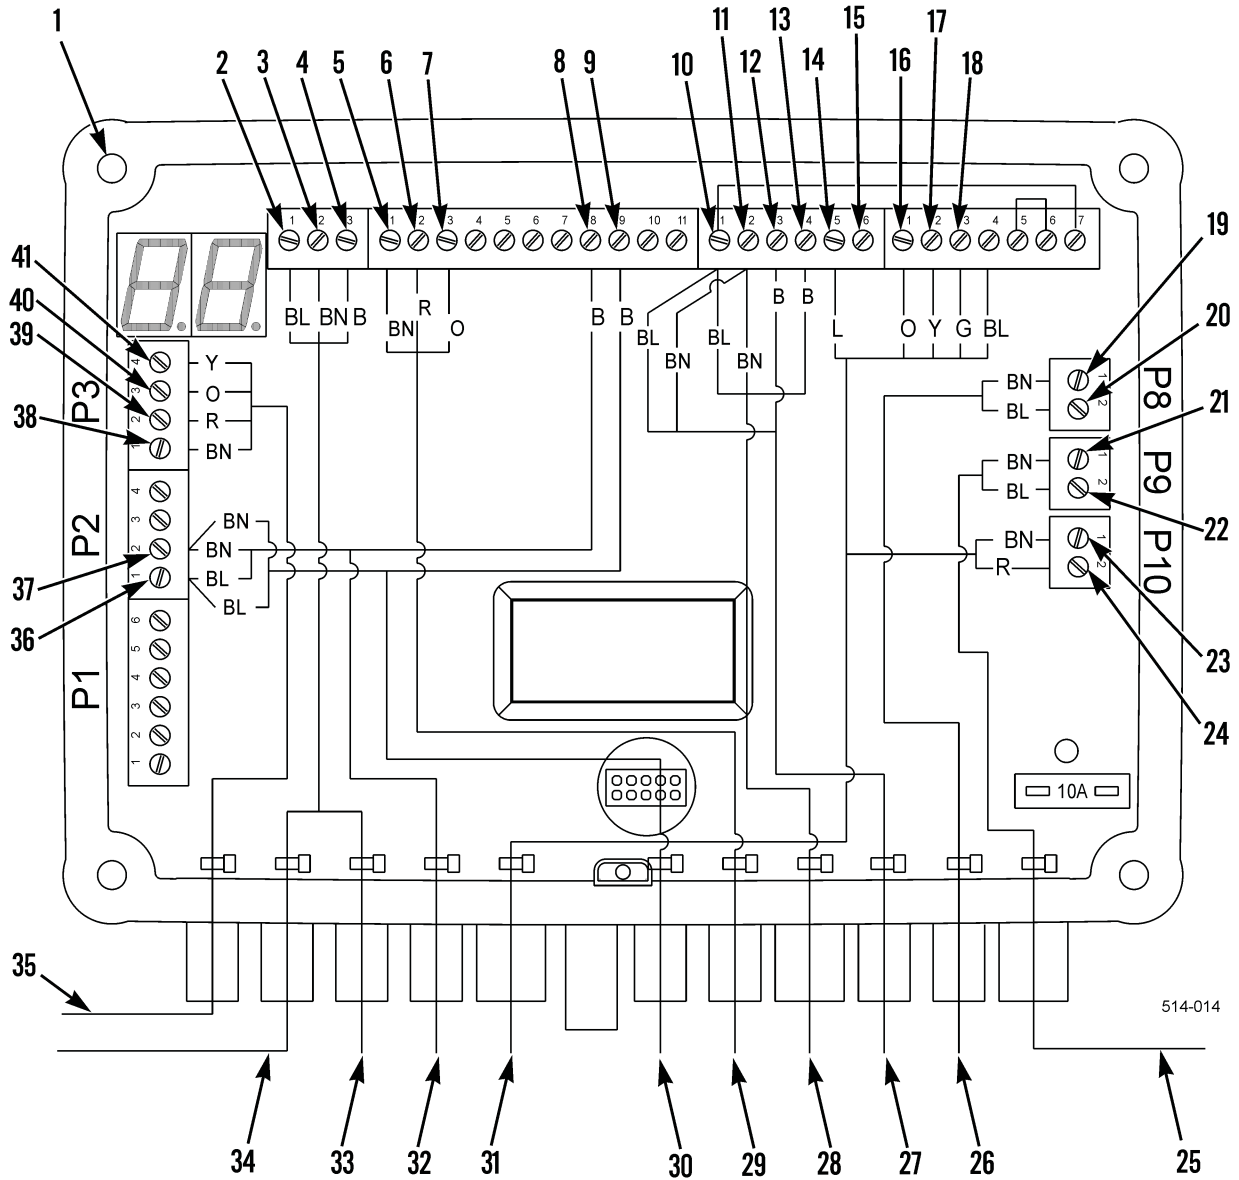

Figure 12. Space 4000 ST Box Wiring Removal.
1. Disconnect brown wire from position 1 (Figure 12, Item 38), red wire from position 2 (Figure 12, Item 39), orange wire from position 3 (Figure 12, Item 40), and yellow wire from position 4 (Figure 12, Item 41) on P3.
2. Remove space computer harness (Figure 12, Item 35) from Space 4000 ST box (Figure 12, Item 1).
3. Disconnect two blue wires from position 1 (Figure 12, Item 2), two brown wires from position 2 (Figure 12, Item 3), two black wires from position 3 (Figure 12, Item 4) on P4.
4. Remove LH (Figure 12, Item 34) and RH (Figure 12, Item 33) stowage guide sensor harnesses from Space 4000 ST box (Figure 12, Item 1).
5. Disconnect brown wire from position 1 (Figure 12, Item 5), red wire from position 2 (Figure 12, Item 6), orange wire from position 3 (Figure 12, Item 7) on P5.
6. Remove stowage angle sensor harnesses (Figure 12, Item 29) from Space 4000 ST box (Figure 12, Item 1).
7. Disconnect two blue wires from position 1 (Figure 12, Item 36), and two brown wires from position 2 (Figure 12, Item 37) on P2.
8. Disconnect black wire from position 8 (Figure 12, Item 8) on P5.
9. Remove LH transport lock sensor harnesses (Figure 12, Item 32) from Space 4000 ST box (Figure 12, Item 1).
10. Disconnect black wire from position 9 (Figure 12, Item 9) on P5.
11. Remove RH transport lock sensor harnesses (Figure 12, Item 30) from Space 4000 ST box (Figure 12, Item 1).
12. Disconnect two blue wires from position 1 (Figure 12, Item 10), two brown wires from position 2 (Figure 12, Item 11), and black wire from position 4 (Figure 12, Item 13) on P6.
13. Remove middle frame sensor harness (Figure 12, Item 28) from Space 4000 ST box (Figure 12, Item 1).
14. Disconnect black wire from position 3 (Figure 12, Item 12) on P6.
15. Remove hook arm sensor harness (Figure 12, Item 27) from Space 4000 ST box (Figure 12, Item 1).
16. Disconnect lilac wire from position 5 (Figure 12, Item 14) on P6.
17. Disconnect orange wire from position 1 (Figure 12, Item 15), yellow wire from position 2 (Figure 12, Item 16), green wire from position 3 (Figure 12, Item 17), and blue wire from position 4 (Figure 12, Item 18) on P7.
18. Disconnect brown wire from position 1 (Figure 12, Item 23), and blue wire from position 2 (Figure 12, Item 24) on P10.
19. Remove CAN bus harness (Figure 12, Item 31) from Space 4000 ST box (Figure 12, Item 1).
20. Disconnect brown wire from position 1 (Figure 12, Item 19), and blue wire from position 2 (Figure 12, Item 20) on P8.
21. Remove unstow harness (Figure 12, Item 26) from Space 4000 ST box (Figure 12, Item 1).
22. Disconnect brown wire from position 1 (Figure 12, Item 21), and blue wire from position 2 (Figure 12, Item 22) on P9.
23. Remove stow harness (Figure 12, Item 25) from Space 4000 ST box (Figure 12, Item 1).